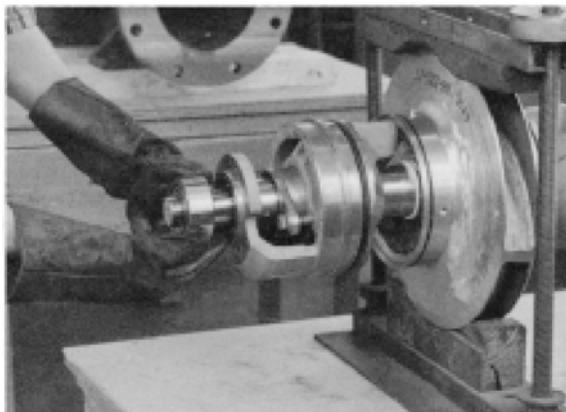

FIGURE 25 – INSTALLING SHAFT BEARING
14. Using gloves, slide the heated bearing onto the shaft against the shaft shoulder (See Figure 25).